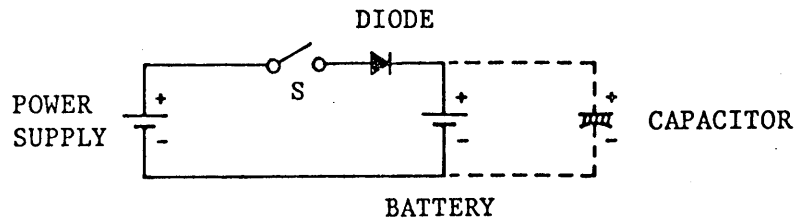

Figure 4-1
2. If the output voltage of power supply is lower than the battery voltage or if the power switch is off, a current of several hundreds milliamperes flows from the battery into the power supply. If this current is not allowable, connect a diode in series with the battery as shown in Figure 4-1 .